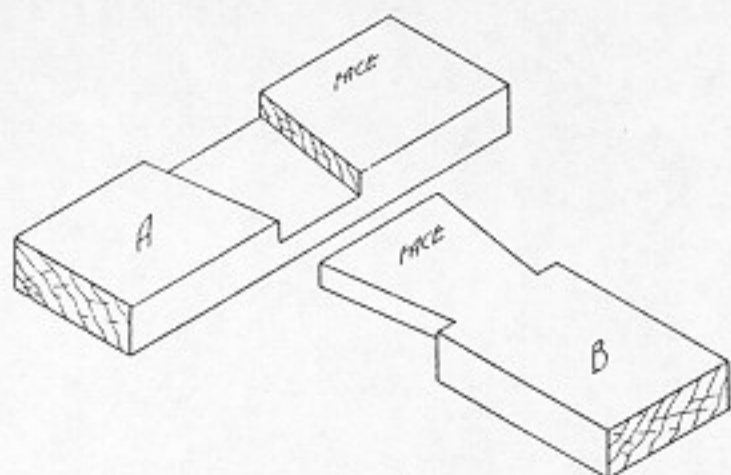

Fig. 202. Dovetail-lap joint.
79. Making a Dovetail-Lap Joint. This joint is a modified middle-lap joint (Fig. 202). It is made so that it cannot be pulled apart, and is therefore used where it is subject to pulling or tension strain. This